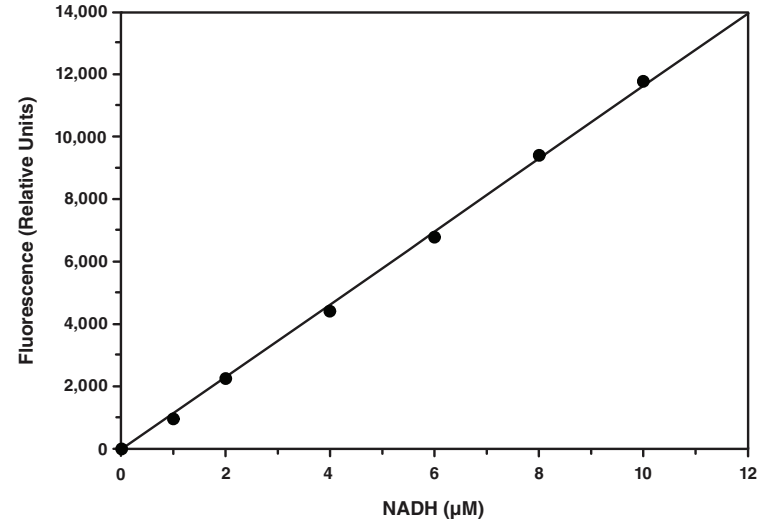

Figure 2. NADH standard curve
2. Plot the corrected fluorescence values (from step 1 above) of each standard as a function of the final concentration of NADH from Table 1. See Figure 2, on page 19, for a typical standard curve.